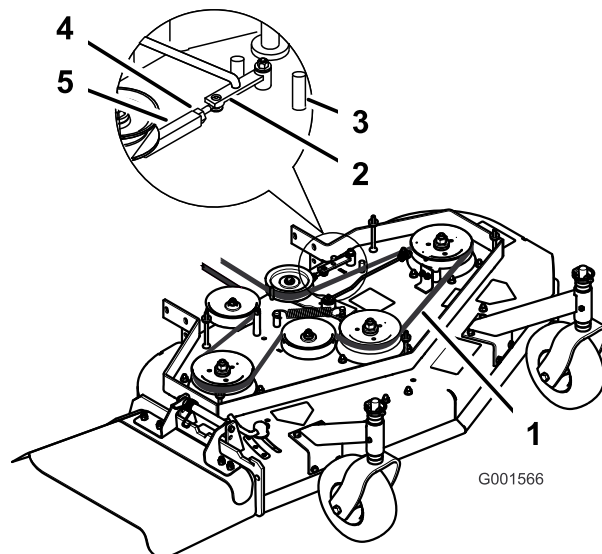

Figure 41
3. Loosen the locknut on the turnbuckle (Figure 41).
13 mm (1/2 inch) halfway between the pulleys (Figure 41).